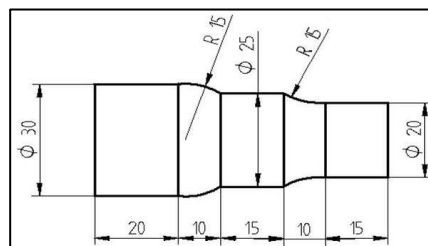

Figure 10: Final profile of the job.
4.2 Create a Numeric code to perform a step turning operation to get a job as given in below figure 10 on a CNC lathe machine.